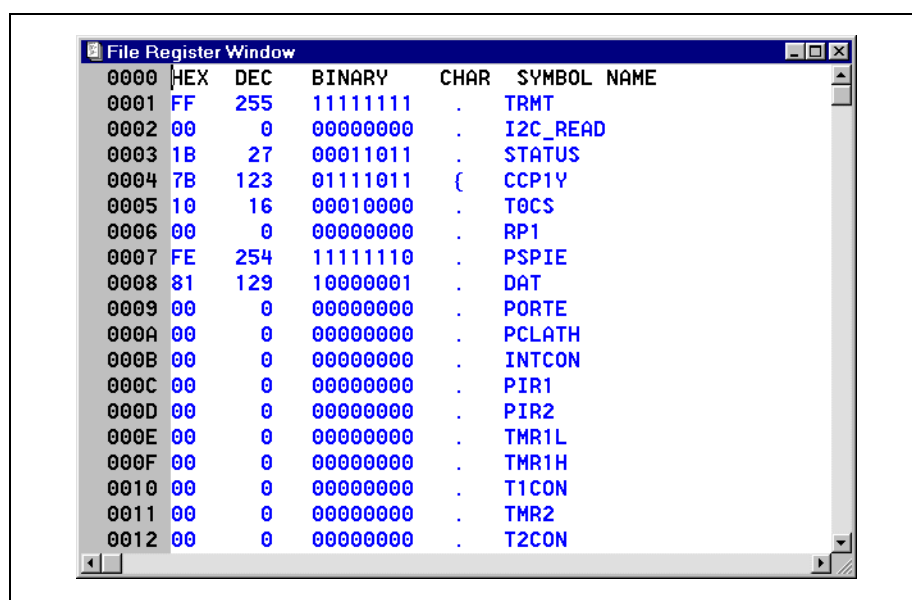

Figure 1.70: File Registers Window – Symbolic Display
- **Symbolic Display** – This displays each file register symbolically with corresponding data in HEX, decimal, binary and character formats (Figure 1.70).